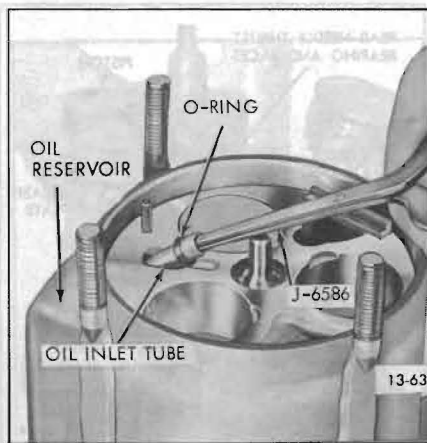

Figure 13-63—Removing Oil Inlet Tube
1. Pull out oil inlet tube (see Figure 13-63) and oil inlet tube "O" ring using Remover (J-6586).